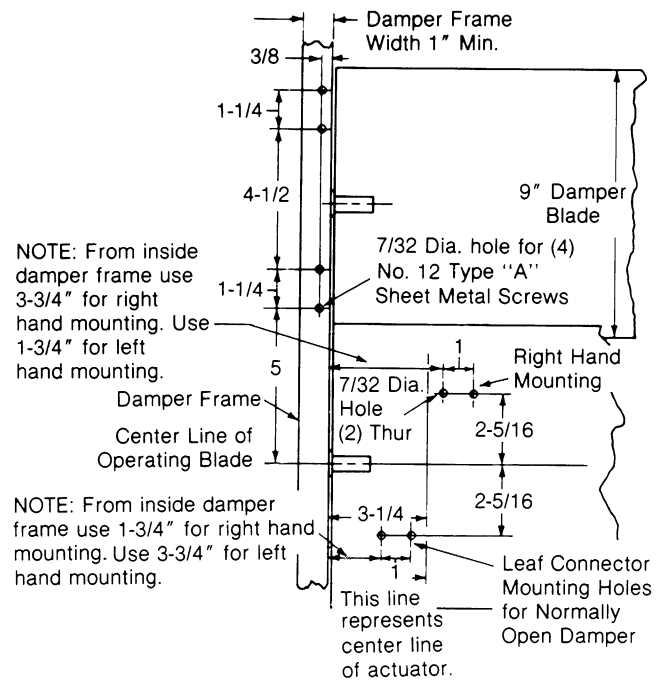

Figure 11. Typical Bolt-on Bracket Mounting
1. Prepare the damper by drilling necessary holes, etc. See Figures 11 and 15 for bolt-on bracket.
Refer to Figures 11 and 15 for required holes, etc. for AM-532.